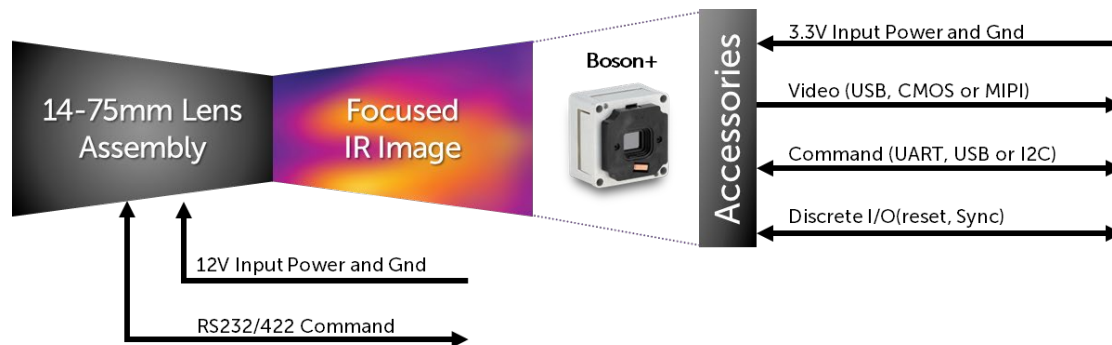
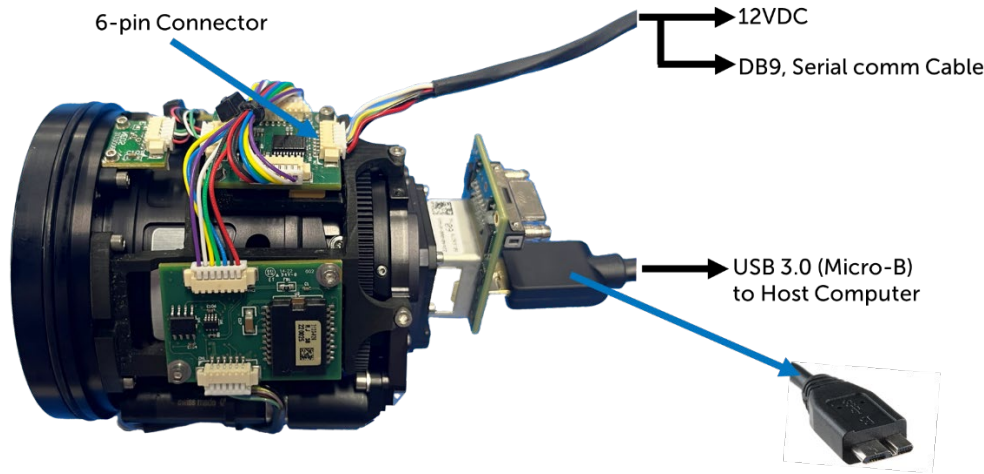

Figure 2. Simplified block diagram of the hardware
Figure 4. Cable connection for Boson+ CZ 14-75 with Camera Link Accessory Board
The Boson+ CZ 14-75 includes the 14-75 mm continuous zoom (CZ) lens integrated with the Boson+ camera module. The CZ lens and infrared (IR) camera module are assembled at the Teledyne FLIR factory to provide an infinity-focused IR image to the camera. Users must select an accessory board and connect the power/communication cable for the camera system. It is configured with a Camera Link® accessory board and power/communication cables in Figure 2 and Figure 4. Datasheet (Doc.# 102-2013-40) for the camera from Teledyne FLIR provides the list of accessories. The lens controller and the camera need separate power and communication cables. The input power of the lens controller is 12 VDC, and the input power for the camera module is 3.3 VDC.
Figure 4 includes the Boson+ CZ 14-75 with the Camera Link® accessory board installed. The power/comm cable for the lens controller should be connected to the 6-pin Molex PicoBlade connector (Molex 53261-0671). The micro-USB 3.0 cable should be connected to the Camera Link accessory board to provide power to the camera and stream the video signal.